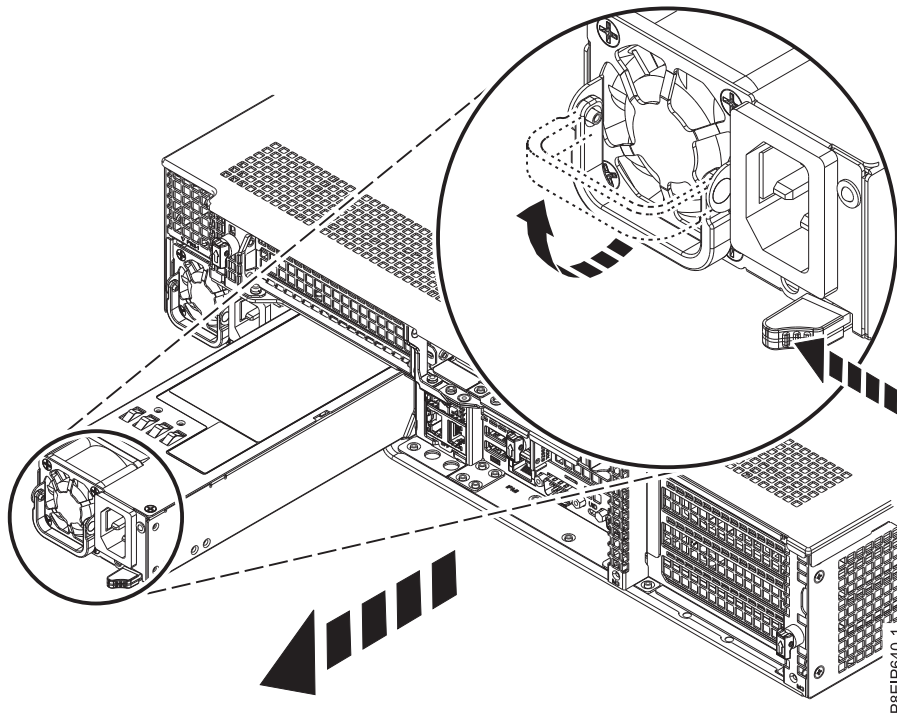

Figure 62. Removing a power supply from the system
- a. To unseat the power supply from its position in the system, push the locking-tab to the left as shown in Figure 62.